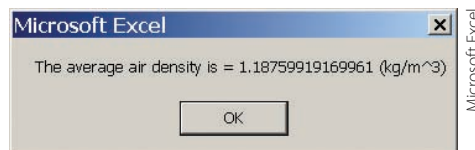

FIGURE 14.51
3. To run the code, click on **Run** and then **Run Sub/UserForm**. You will then see the result in Figure 14.51.